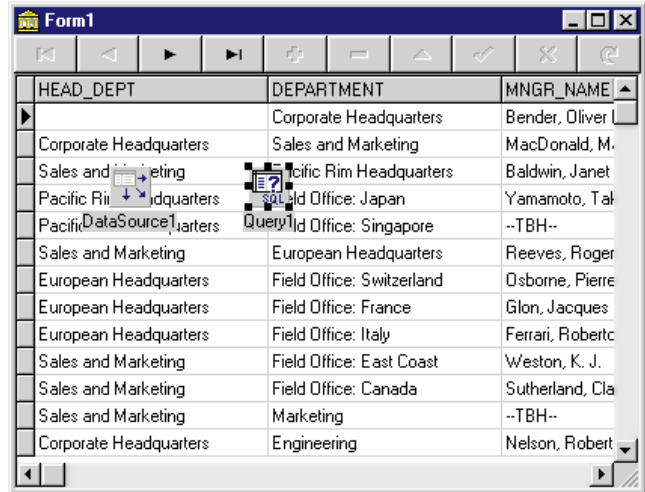

Figure 6: The result set returned by a stored procedure on the Local InterBase Server is accessed using a Query component.
- Finally, set the Query's *Active* property to *True*. This causes the SQL statement to execute, producing a call to the *ORG_CHART* stored procedure. Your main form should look like **Figure 6**. You can run the project; it will result in a display similar to the one you see at design time.